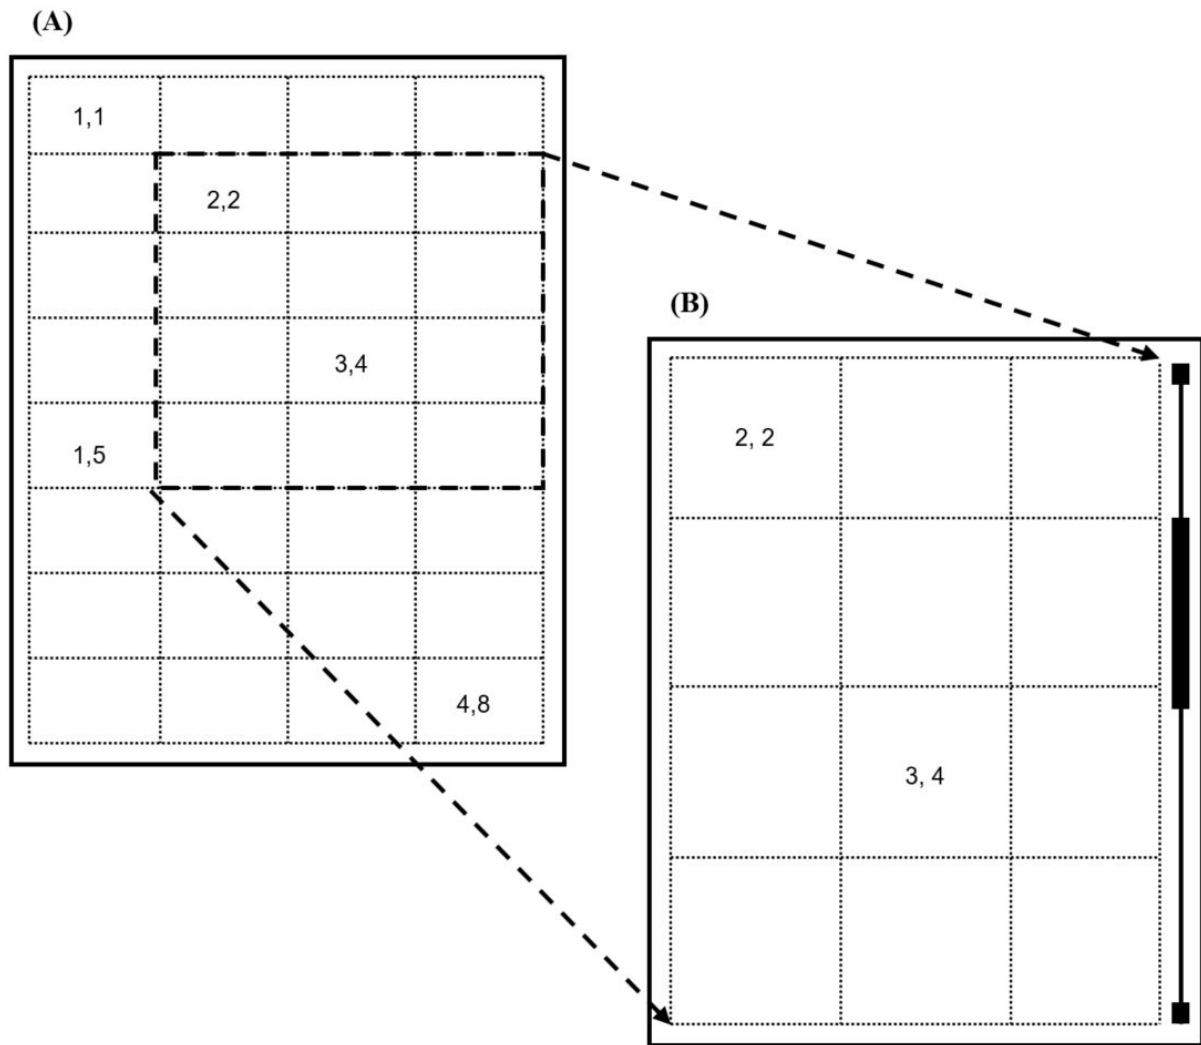

Figure 8.3.3 Effect of XML String on Grid
Consider the following; a grid is initially created as 4 tiles wide by 8 tiles high is in example (A) in Figure 8.3.3.
will cause the a subset of the GRID to be display as in example (B) in Figure 8.3.3.
The GRID may be displayed in its entirety as in (A) in Figure 8.3.3. Here the whole GRID occupies most of the display real estate.